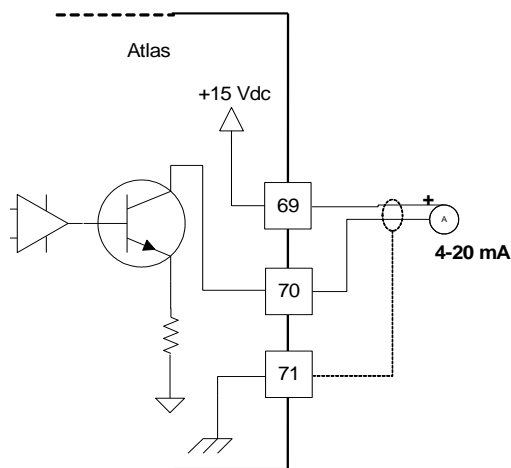

Figure 4-12. Wiring Example—Analog Output Interface to the SmartCore CPU A5200 Board
- Refer to Figure 4-12 for analog output wiring.